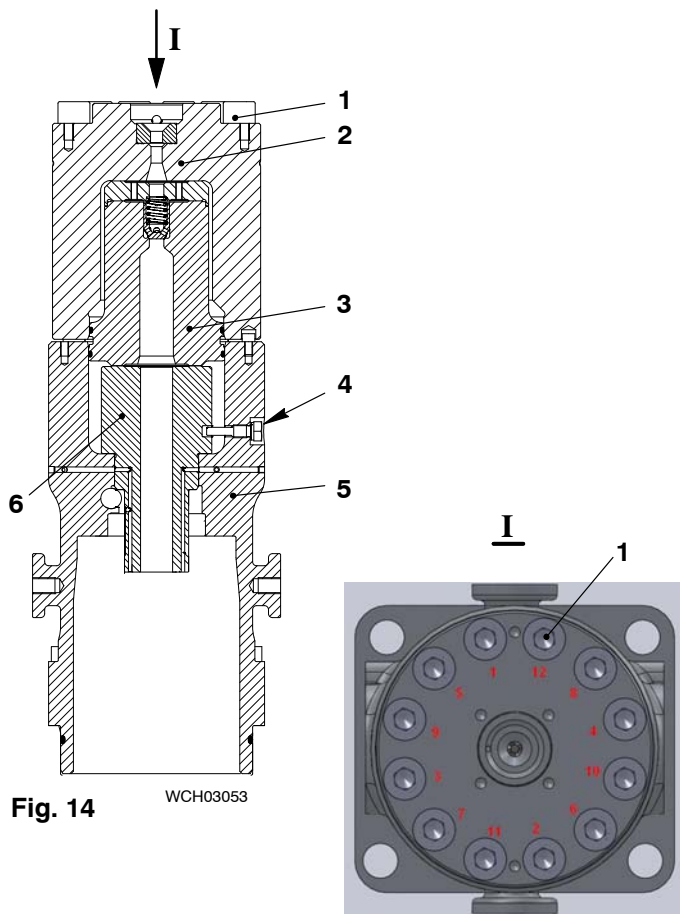

Fig. 14
- 1) Put oil on the bottom part of the non-return valve (3, Fig. 14).
- 2) Carefully put the assembled non-return valve (3) into the top housing (5).
- 3) Put the pump cover (2) in position on the top housing (5).
- 4) Apply NeverSeez NSBT to the threads and the bottom faces of the 12 bolts (1).
- 5) Put the 12 bolts (1) in position in the pump cover (2).